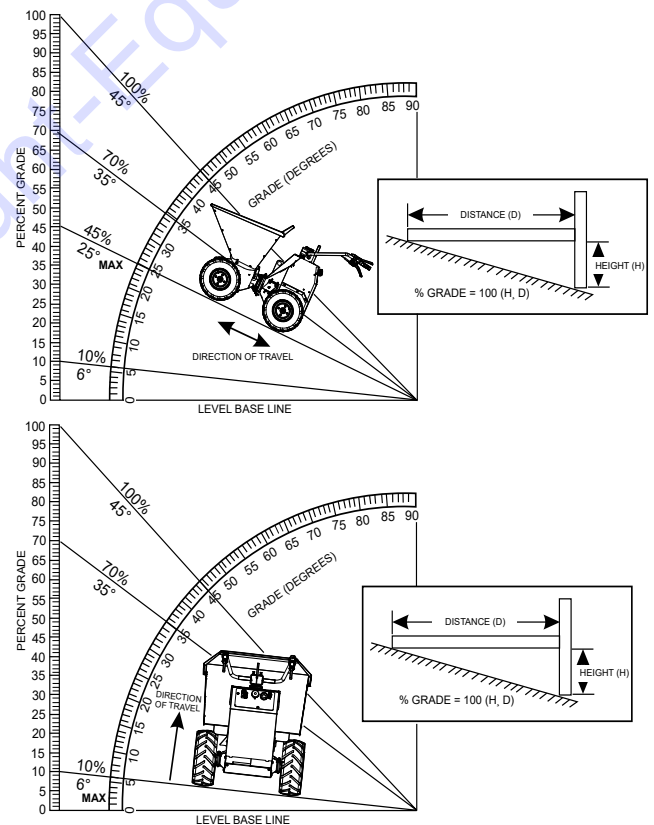

Figure 12. Determining Grade of Slope
- When traveling on a slope, it is necessary to determine the grade of the path. The TB11G/E buggies can travel up or down slopes not exceeding 25° (Figure 12). **DO NOT** travel on steeper slopes.
To determine the % grade of your path of travel, use the formula and graph in Figure 12.